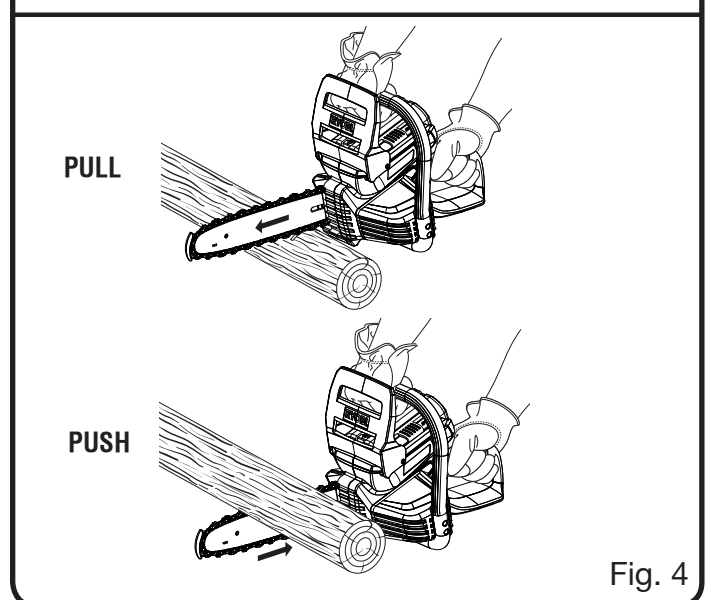

Fig. 4
- Push and Pull - This reaction force is always opposite to the direction the chain is moving where wood contact is made. Thus, the operator must be ready to control the PULL when cutting on the bottom edge of the bar, and PUSH when cutting along the top edge. See Figure 4.